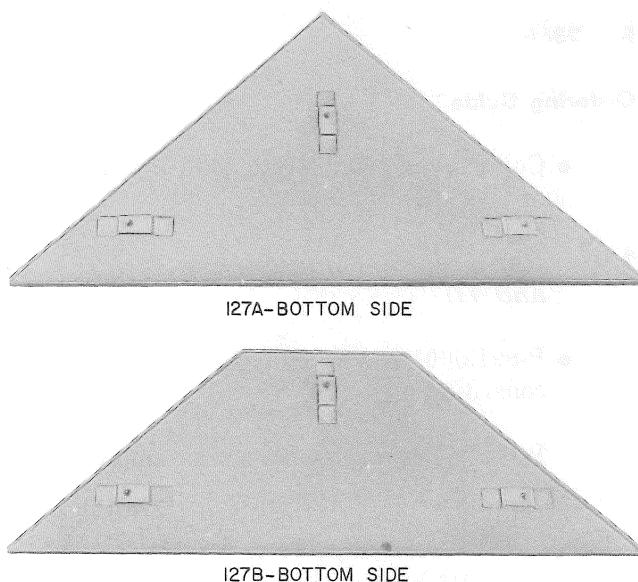

Fig. 8—127A and 127B Covers
- 127A-67 or 127B-67 cover (Fig. 8) (for use over the coin telephone set in installations not flush mounted)